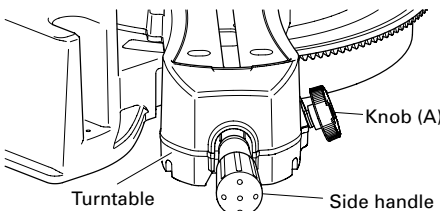

Fig. 36
- (1) Rotate the turntable to the miter angle you need.
- (2) When making fine adjustments of the miter angle, turn the knob (A) while pulling up the lever (Fig. 36).